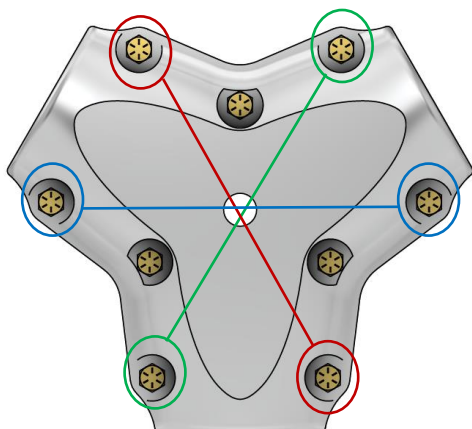

Figure 1
10. Place the top half of the hub (REF-1) on top of blades. Insert 6 outside bolts, (circled in Figure 1), 3/8"x2" "hub to hub" bolts (REF-9) using a Nord-lock washer (REF-13) under the head of the bolt. Hand tighten with a socket wrench in a star pattern diagonally to ensure an even gap on both sides of the hub.
Hub-to-Hub Bolts (REF-9/REF-13) are circled in Figure 1.
12. When applying torque to bolts, keep a close eye on the gap around the perimeter of the hub to confirm gap is equal all the way around. Using calibrated torque wrench torque outer 3/8”x 2” “hub-to-hub” bolts (REF-9) shown in Figure 1, incrementally starting at 20 ft lbs, increasing to 25 ft lbs to set final torque at 30 ft lbs.